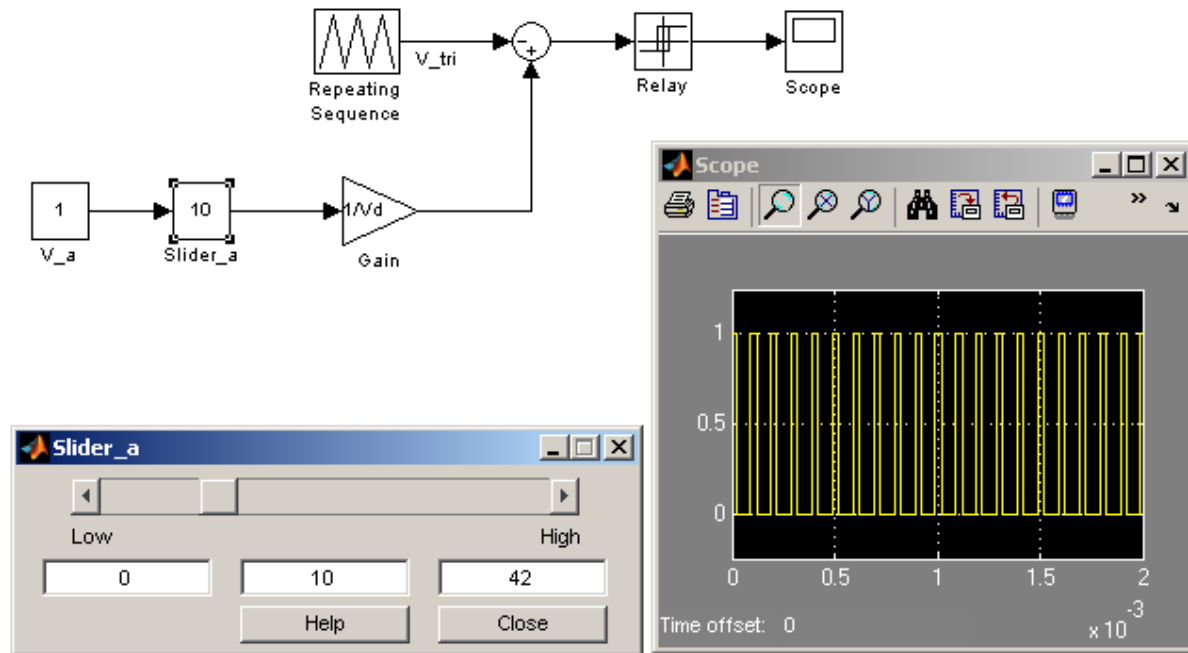

Figure 2.3: Switching Function generation for single pole converter
- Change the **Slider Gain** limits as shown in Fig. 2.3.
- Rename the blocks and connect them as shown in Fig. 2.3.
- Run the simulation and save the waveform for the switching function. (Fig. 2.3)
- 1) Section 2.3.2: Run the simulation and save the waveform for the switching function. (Fig. 2.3)